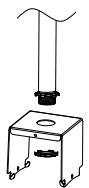

Figure 3
Step 1. Mount the bracket on 3/4"NPT (Figure 3);